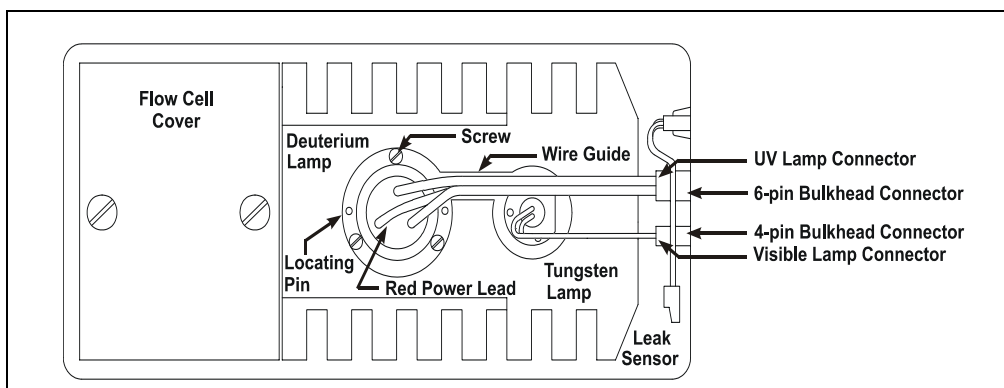

Figure 5-3. Lamp Connections
8. Squeeze the clip on the UV lamp connector and disconnect it from the 6-pin bulkhead connector on the side wall (see Figure 5-3).
9. Loosen the three screws in the deuterium lamp flange (see Figure 5-3) and pull the lamp out of the optical bench.
11. Line up the flange of the new lamp with the two locating pins and three threaded holes in the optical bench (see Figure 5-3). When the flange is aligned, gently push the lamp into the optical bench.
13. Squeeze the clip on the UV lamp connector and insert it into the 6-pin bulkhead connector on the side wall. Route the wires through the wire guide in the optical bench (see Figure 5-3).
8. Squeeze the clip on the Vis lamp connector and disconnect it from the 4-pin bulkhead connector on the side wall (see Figure 5-3).
12. Squeeze the clip on the Vis lamp connector and insert it into the 4-pin bulkhead connector on the side wall. Route the wires through the wire guide in the optical bench (see Figure 5-3).